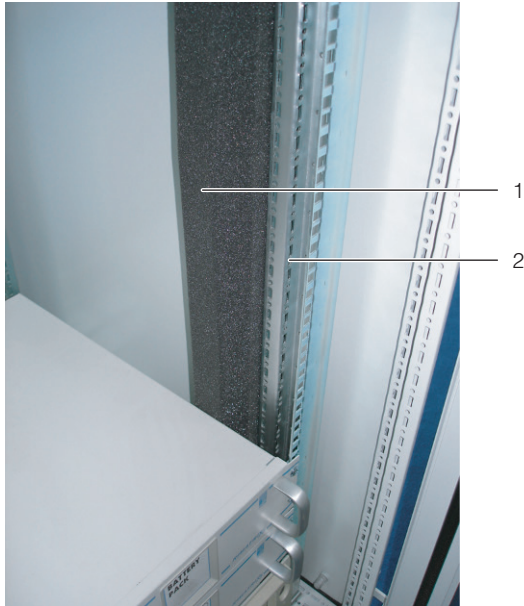

Fig. 22: Foam strip on a server rack support
- Fasten the wider (Model No. SK 3301.370 / 3301.320) of the two foam strips from the Liquid Cooling Package accessories from outside onto one of the front supports of the server rack (Fig. 22).
■ **If you are only buying the Liquid Cooling Package on one side:** Fasten the narrower (Model No. SK 3301.380/3301.390) of the two foam strips from the Liquid Cooling Package accessories from outside onto one of the front supports of the server rack (Fig. 22). Make sure to install this strip on the side of the server enclosure which will again be sealed by a side panel.